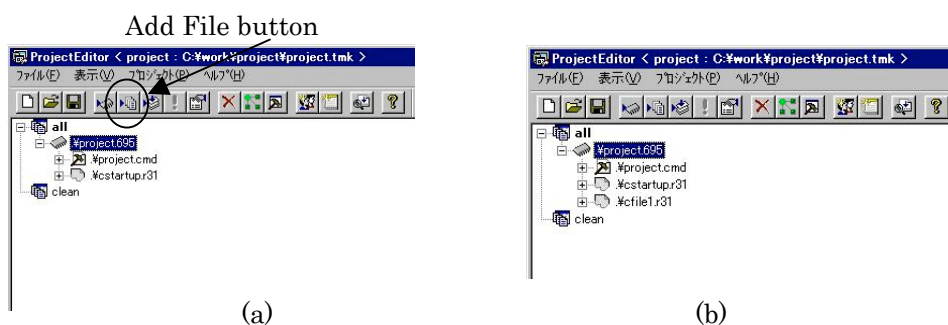

Figure 28 Registering a source file
1. In the project editor, click on the `.\proj_1.695` file to select it and then click the Add File button (Figure 28 (a)).
3. A source file whose extension changed to “.r31” will be registered below `.\proj_1.695` (Figure 28 (b)).